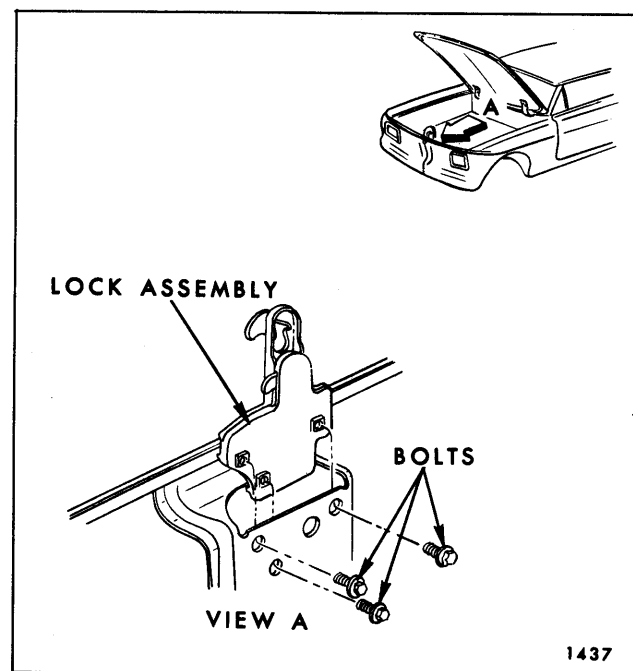

Fig. 5-19—Front Compartment Lid Lock
2. Remove screws (Fig. 5-19) securing lock to lid lock support and remove lock assembly.